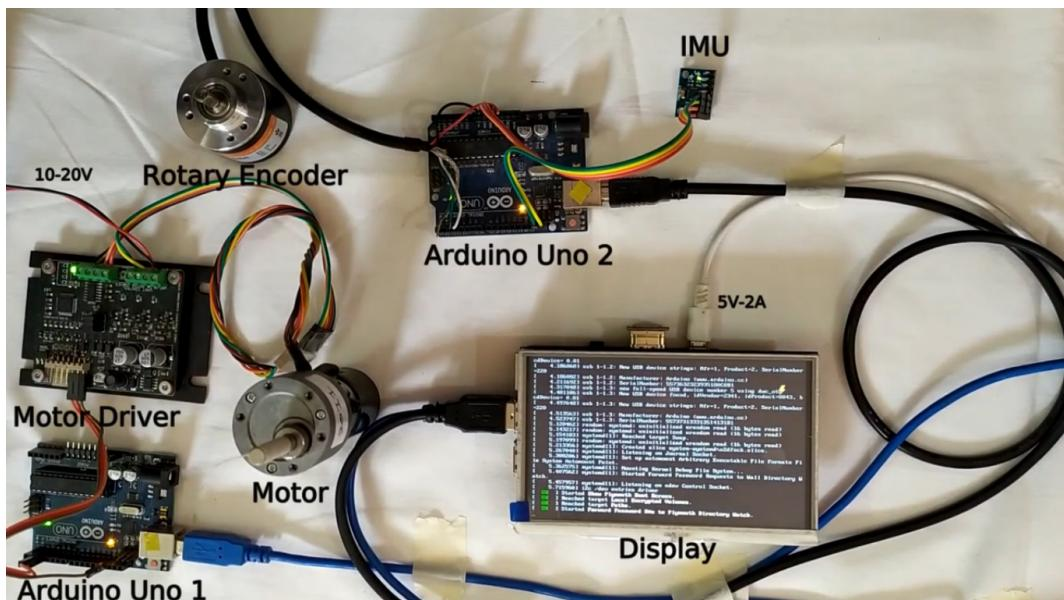

Figure 4.1: Instrumentation setup and integration
(RMCS2303) for performing control of the motor drive and delivering the required power in controlled manner. The motor controller is connected to another Arduino Uno and they both communicate via serial communication. The Arduino board is connected to the Raspberry Pi computer which can send the required speed command updates to the board. The complete setup can be seen in Fig. 4.1. The Raspberry Pi operates on a Debian based operating system(OS) known as Raspbian, the OS has been heavily modified to have all the required packages preinstalled and ready to use (available for download at project website). The software stack mainly makes use of Bash, Arduino-CLI, YAD and Python; the implementation details have been omitted for brevity, however some important portion of the code can be found in appendix. Fig. 4.2 show the 5-inch touchscreen display, HDMI connector and the Raspberry Pi display. The display comes with a stylus and can be easily operated by the user.